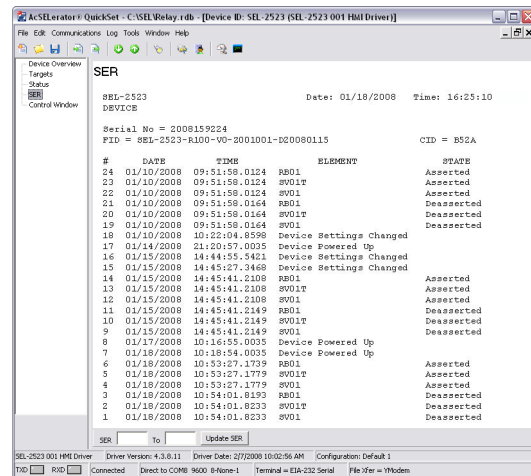

Figure 8 Example SER Report
- Analyze SER records to verify alarm operation (see *Figure 8*)
The SER records as many as 1024 state changes to the millisecond for as many as 96 digital points, and captures the time of device startup and settings changes. The SEL-2523 comes standard with alias names for each element. Each defined SER point can be assigned different element names for the asserted and deasserted state. Assigning familiar names for each element provides the SER record reviewer with a clear, at-a-glance view of an event. *Figure 8* shows an example of an SER report.